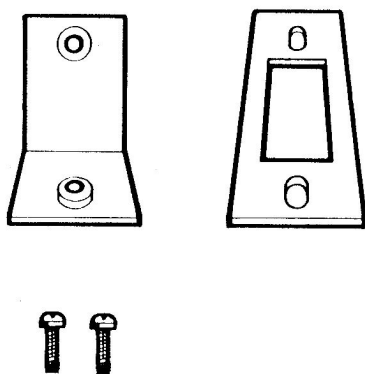

Fig. 4 II Plus L-bracket, screws and backplate
- An Apple II Plus L-bracket, two long anchor screws and a cable clamp backplate, depicted in Figure 4.